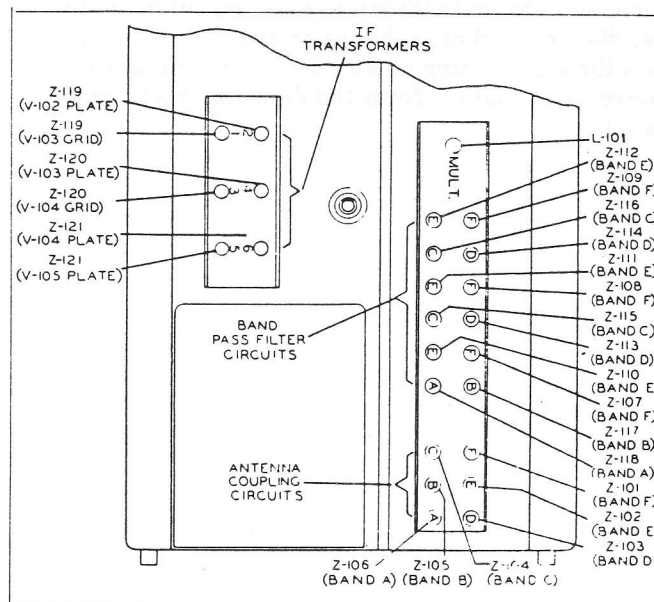
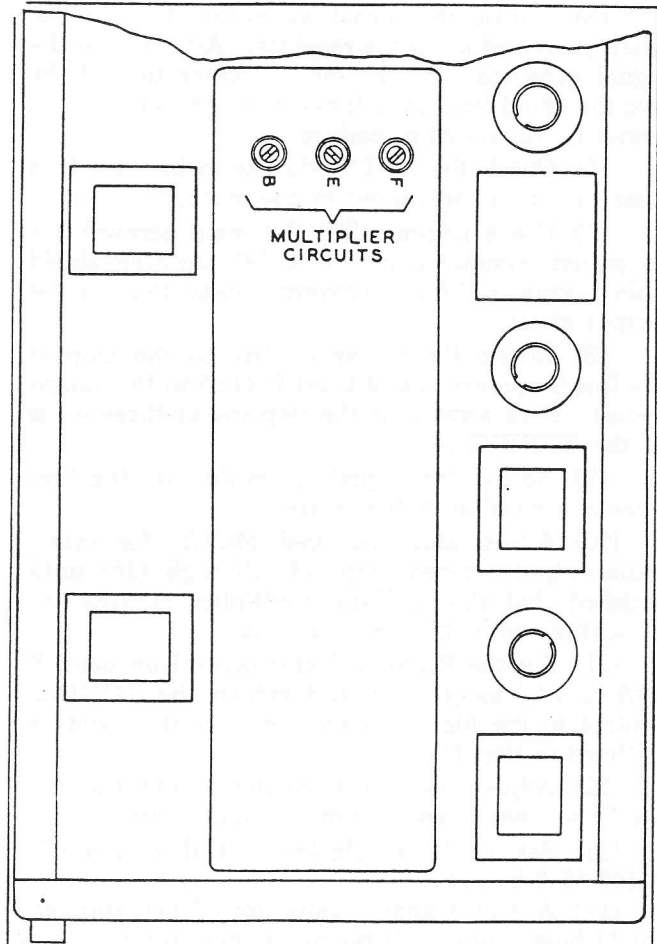

Figure 5-6. Tuned Circuit Locating Diagram, IF and Band Pass Adjustments
Figure 5-7. Tuned Circuit Locating Diagram, Multiplier Adjustments
(12) Contact the terminal on Z-119, to which the coaxial cable is attached, with the probe and adjust i-f slug numbered "1" on the i-f platform for maximum output. Through the hole in the shield numbered "2" contact the transformer terminal with the probe and adjust i-f slugs numbered "2" on the i-f platform (see figures 5-6, 6-3 and 6-4) for maximum output meter readings. Repeat procedure for transformer terminals 2-3-4 and slugs 3-4.
c. MULTIPLIER ALIGNMENT.—The multiplier is aligned by means of the slug adjustment of L-101 and the adjustment of C-141, C-142, and C-143. The slug adjustment for L-101 is engraved MULT. and can be located by referring to figures 5-6, 6-3, and 6-4. Variable trimmer capacitors C-141, C-142 and C-143 are located on the right side of the receiver and the slotted shaft screwdriver adjustments are accessible through the holes in the shield engraved F, E and B. Refer to figures 5-7, and 6-6. To align the multiplier, proceed as follows:
(1) Connect the output lead of the signal generator to the antenna terminal of the receiver and
sure they are near the end of travel out of their respective coils. (Refer to figures 5-6, 6-3, 6-4 and 8-9.)
(5) Stamped on the cover adjacent to each hole will be found a letter and a number. The letter corresponds to the band indicated on the tuning dial and the associated slug as shown on figures 5-6, 6-3 and 6-4. Use a non-metallic alignment screwdriver to adjust the trimmer capacitor corresponding to the band it is desired to adjust.
(6) Trimmer and slug adjustments are numbered consecutively beginning with the antenna coil. Adjustments for any one band should be made beginning with the highest numbered trimmer or slug adjustment and proceed to lower numbered trimmer and slug adjustments. It should be noted that the number of tuned circuits varies with the frequency bands, increasing in number as the frequency is raised.
(7) Each trimmer should be adjusted for maximum reading on the output meter, taking care to back off the signal generator output so as not to exceed the avc threshold level determined in step (2).
(8) After the high frequency end of a given band is adjusted according to the above procedure, tuning control should be rotated to the stop at the low frequency end of the band. Back away from the stop two or three turns of the TUNING control.
(9) Find the frequency with the signal gener-